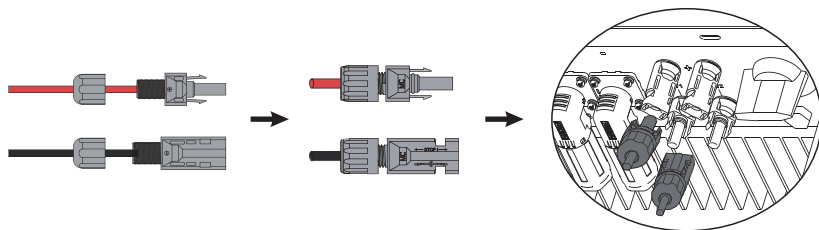

Figure 4.1-3 The PV plug is connected to the inverter
Step 3. Screw the cap on and plug it onto inverter side. There will be a click sound if connectors are inserted correctly into PV plugs. See Figure 4.1-3.